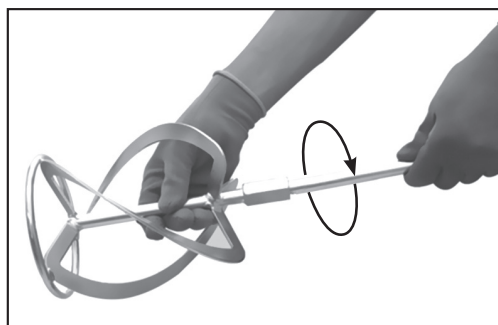

Fig. 1 - PADDLE FIXATION ON THE ROD
1. Screw the whisk into the end of the rod (Fig. 1).